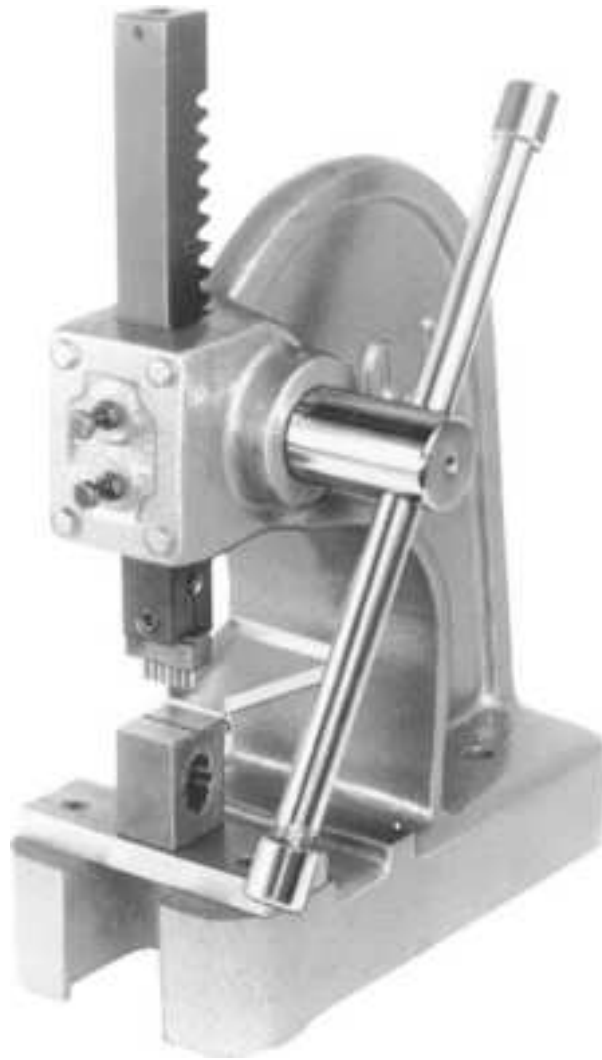

**Figure 2.15** An interchangeable core capping machine is needed for capping IC cores. (*Arrow Mfg. Company*)
- Interchangeable core capping machine (Fig. 2.15 )